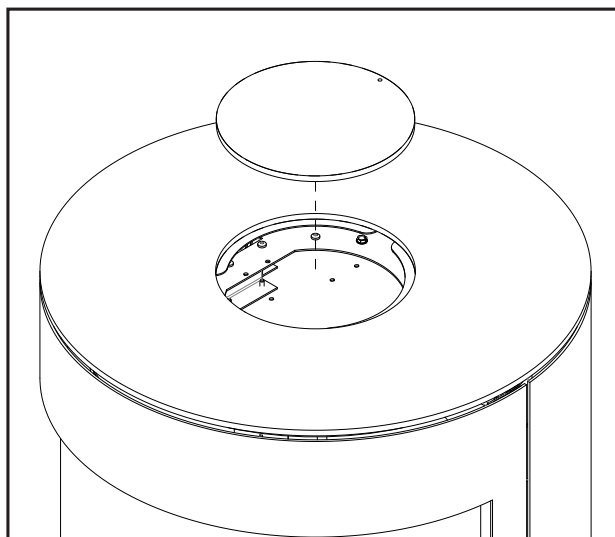

Figure 71: Top Plate Blank
15. Place the top plate blank (included with the unit) into the top plate (see Figure 71).